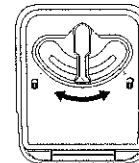

Figure 4. Lock Lid
8. Close the aseptic housing lid and move the latch to the lock symbol. Ensure the dot on the latch aligns with the dot on the lock symbol (see figure 4).